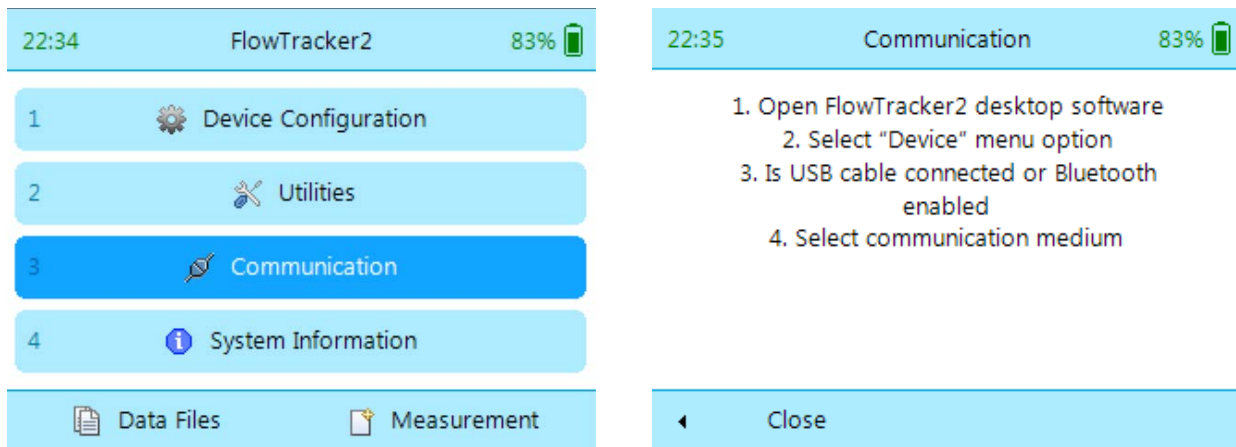

Figure 14:11. Communication dialog
- From the main menu, navigate to the Communications button (Left panel of Figure 14:11) and click the Center Key. The FlowTracker2 will wait for a signal from the PC, showing the screen in the right panel of Figure 14:11.
- Once successfully connected, the FlowTracker2 data files will be listed, as shown in Figure 14:13. The handheld will indicate that it is connected to your computer.